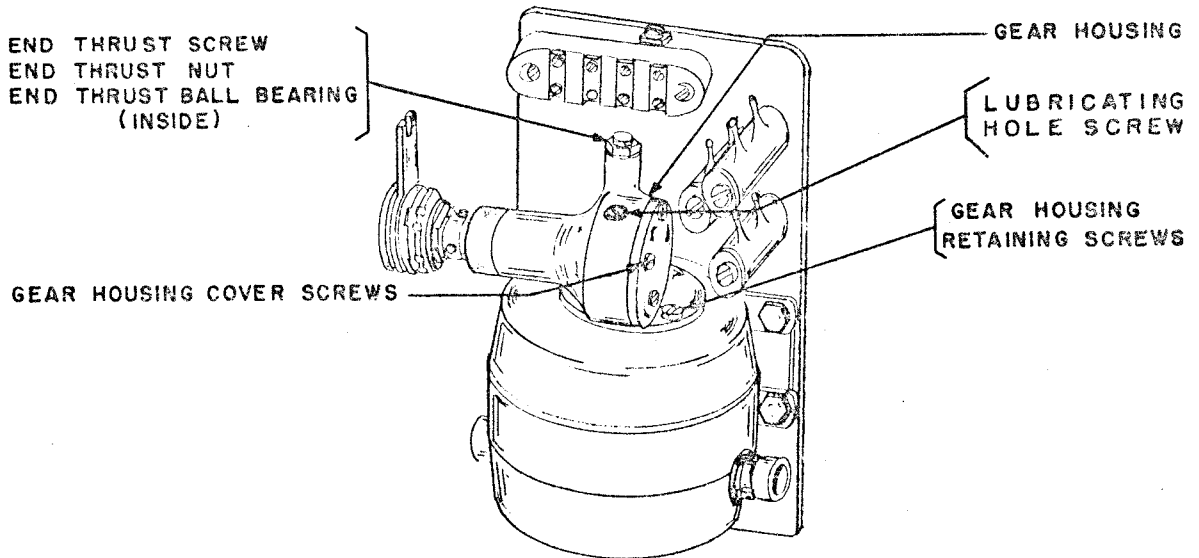
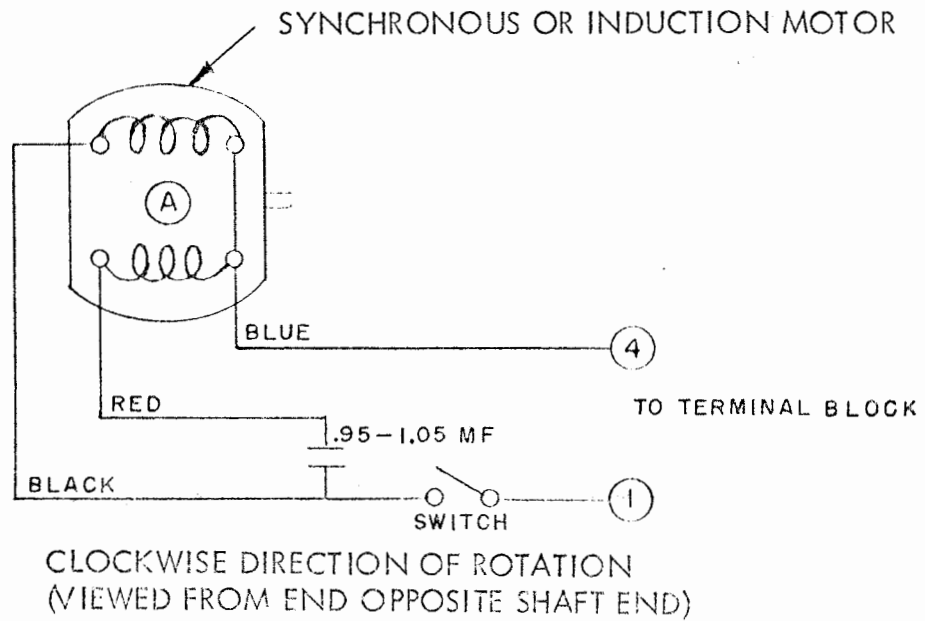
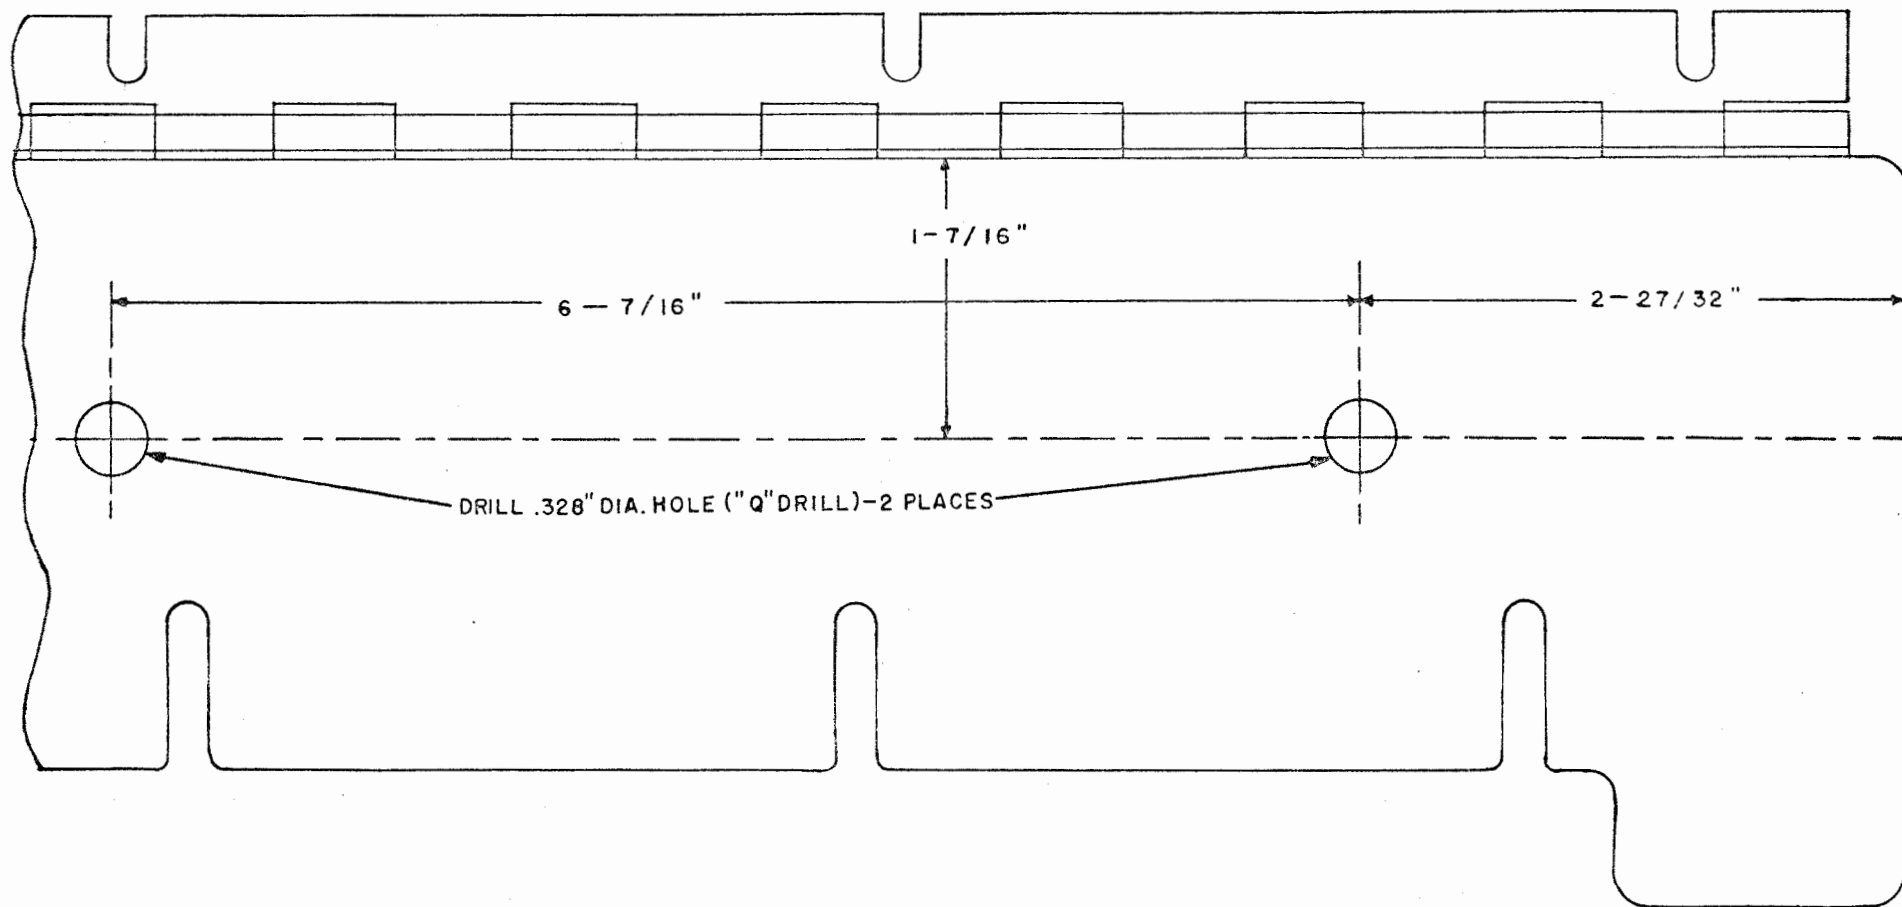

FIGURE 2
FIGURE 3
FIGURE 7. (MAY BE USED AS A TEMPLATE)
(1) Mount the 104849 Resistor together with the 104850 Base using the two 125140 Screws on a wooden table or the two 151723 Screws, 2669 Lock Washers, and 112626 Nuts on an all-metal table.
(2) Connect the 104849 Resistor in series with one of the power leads on the paper winder in accordance with Wiring Diagram 1543WD. Attach the 89239 Connector and 112695 Cap furnished to the cord, for this connection, furnished by the customer.
c. 129428 Modification Kit (Figure 2)
(1) Disconnect the plug from the power supply and remove the 101021** Cover by removing the 8543 Screw and by backing off two 8543 Screws (the cover has two slotted mounting holes).
(2) Depress the 93639 Latch Assembly and remove the paper winder spindle from its mounting to facilitate installation of the new parts.
(3) Remove the four 151723 Screws, 3438 Washers and 3639 Lock Washers which fastens the 114684 Motor to the 102490** Bracket, being careful not to loosen any electrical connections.
(4) Remove the end thrust screw, nut and ball bearing from the gear housing, being careful not to lose the bearing.
(5) Remove the gear housing from the motor end bell by removing three screws, being careful not to damage or lose the gasket, then remove all excess grease from the pinion and motor end bell.
(6) Remove the gear housing cover by removing three screws, being careful not to damage or lose the gasket, then remove all grease from the gear housing.
(7) Drive out and discard the pins which retain the 129689 Gear to the motor shaft and the 119477 Gear W/Hub to the gear housing shaft. Remove and discard both gears.
(8) Install the 129429 Gear W/Hub on the gear housing shaft using the 92115 Set Screw. Do not tighten the screw fully at this time.
(9) Install the 129430 Pinion Gear on the motor shaft using the 138166 Set Screw. Do not tighten the screw fully at this time.
(10) Reinstall the gear housing and gasket on the motor end bell.
(11) Reinstall the end thrust ball bearing, screw and nut. Turn in the screw until the motor shaft has only 1/32" end play, then tighten the nut.
(12) Looking through the opening provided by the removal of the gear housing cover, position either the pinion gear or the fiber gear so that the teeth of the fiber gear engage the teeth located in the middle section of the pinion. Check to see that there are no binds, then tighten the set screw of each gear (tightening of the fiber gear set screw may be accomplished by removing the lubricating hole screw, shown on Figure 2, and inserting the wrench through the lubricating hole). Reinstall the gear housing cover and gasket. The lubricating hole screw need not be replaced until the gear housing is filled with grease (see figure 6).
(13) Reinsert and position the motor on the bracket so that the gear housing shaft is in line with the spindle cradle at the other end of the paper winder bracket.
(14) Lubricate the gears as specified (under "LUBRICATION") in this specification.
(15) Reinstall the spindle and check the alignment and the paper spindle shaft end play adjustment as specified (under "ADJUSTMENTS") in this specification.
(16) Plug in and start the winder. Observe the operating characteristics and be sure that there are no binds and that the motor runs quiet and does not overheat.
(17) Reinstall the 101021** Cover.
d. 136146 Modification Kit (Figures 3, 4)
- (7) Remove and discard the two 1181 Screws, 2191 Lock Washers, 78287 Bushings and resistor mounting (including 93635 Resistor, 77808 Resistor, 1297 Screws, 89969 Insulating Washers, 3438 Flat Washers, 2191 Lock Washers and 3596 Nuts).
- (8) Remove and discard the 105635 Switch and 88085 Cable.
- (9) On the spindle side of the 102490 Bracket, at its base, remove two 151723 Screws, 3438 Flat Washers and 2382 Lock Washers.
- (10) For paper winders equipped with the 93642 Cord Assembly remove and discard the 93642 Cord Assembly from the top terminals of the 76117 Terminal Block #1 and #4. Replace with the 142556 Cable Assembly and by connecting the BLACK lead to the top #1 and the WHITE lead to the top #4 terminals. The GREEN lead terminal should be placed under the 125015 Flat Washer of the 153537 Ground Screw. (This provides a ground for the paper winder).
- (11) For paper winders equipped with the 93643 Cord Assembly remove and discard the 93643 Cord Assembly with receptacle from Terminals #22 and #23 on the printer base terminal blocks. Replace with the 142557 Cable Assembly and connect the BLACK lead to Terminal #22, the WHITE lead to Terminal #23 and place the GREEN lead under the 7002 Flat Washer of the 1160 Ground Screw of the printer base. See Wiring Diagram 1543WD.
(12) Install the 142551 Bracket to the spindle side of the 102490** Bracket using two 151723 Screws, 2382 Lock Washers and 3438 Flat Washers. Install two 151724 Screws, using 2382 Lock Washers and 3438 Flat Washers through the 142551 Bracket and 102490** Bracket into the 101023** Base Plate (for 6,6-1/2 or 8" paper) or 110996** Base Plate (for 5" paper).
(13) Install 153537 Screw (Ground), 2191 Lock Washer and 125015 Flat Washer into the 142551 Bracket.
(14) Mount the 122548 Capacitor in a vertical position to the 142551 Bracket on the side opposite the spindle re-using one 151623 Screw, 3639 Lock Washer and 84579 Flat Washer.
(15) From the 31551RM Wire cut two lengths, one 4 inches long and the remainder 8 inches long. Skin, twist and tin approximately 1/8 inch on each of the four ends; also the three lead ends on the 142549 Motor.